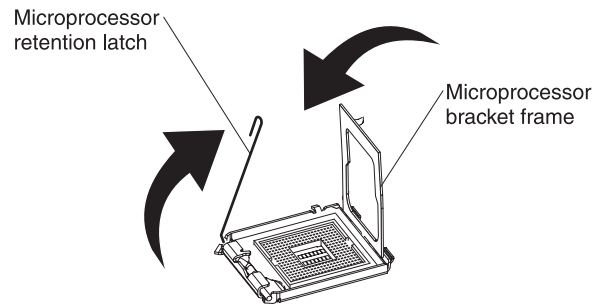

Figure 58. Microprocessor bracket frame
3. Close the microprocessor bracket frame; then, close the microprocessor retention latch and lock it securely in place (see Figure 58).